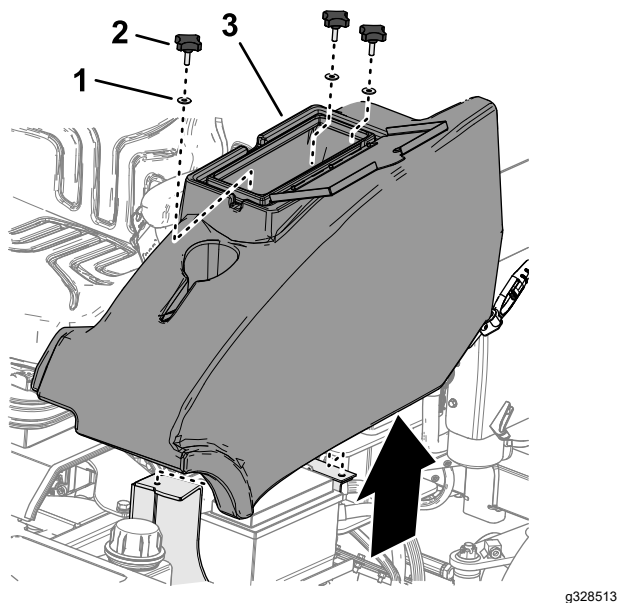

Figure 47
1. At the left side of the operator's platform, open the door of the storage compartment (Figure 47).
2. Remove the 3 knobs and 3 washers that secure the storage compartment to the machine, and remove the compartment (Figure 47).